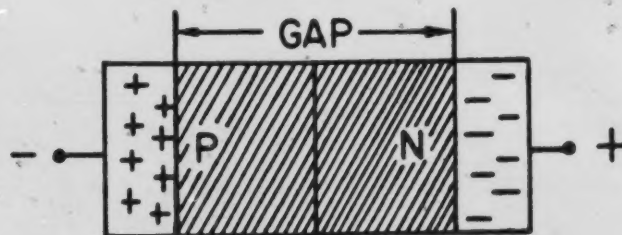

Figure 19
- (21.) A varactor diode must be operated with reverse bias. In a varactor, a negative voltage applied to the terminal of the P-type material will attract the positive particles. This causes them to move away from the PN junction. In a similar manner, a positive voltage applied to the terminal of the N-type material will attract the negative particles, causing them to move away from the PN junction. This reverse bias voltage increases the size of the depletion region. Figure 19 shows this condition.